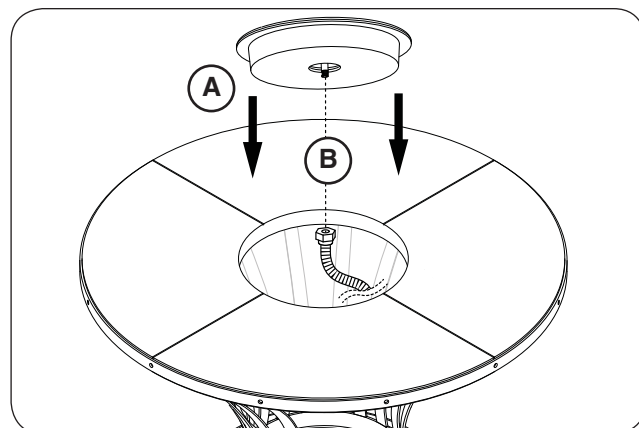

Fig. 21-4 Place burner and connect flex
6. Drop the burner assembly into the opening in the center of the firetable top (see Fig. 21-4, A).
7. Locate the flex connector (marked OUT) that is coming off the valve assembly. Route it to the connection found on the underside of the burner assembly and connect. Tighten securely. See Fig. 21-4, B.